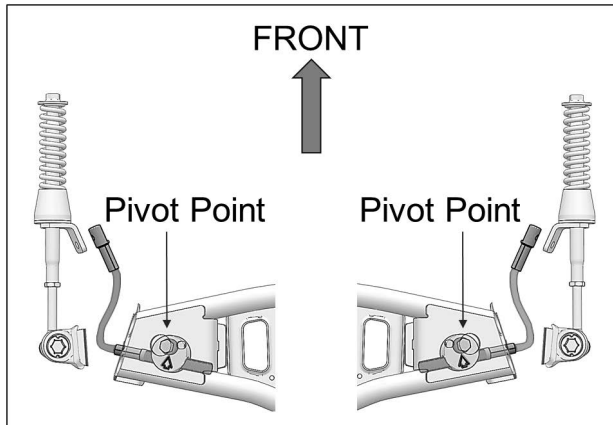

Fig. 30
19. Make sure aluminum disk pivot point is installed in front of steering limiter cable. See Fig. 30